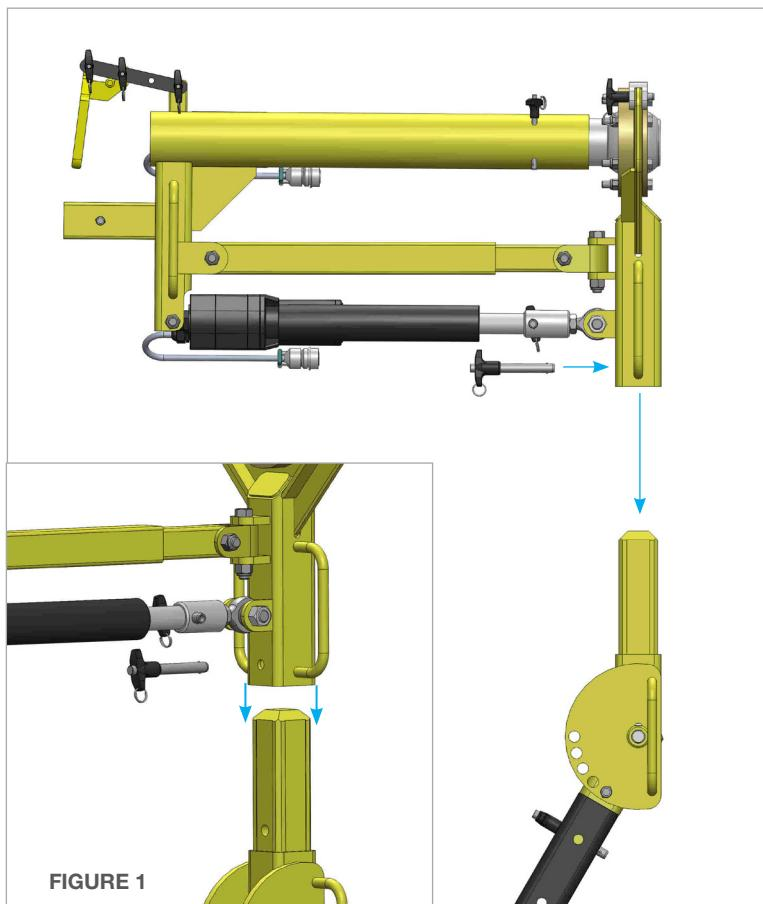

FIGURE 1
1. Remove the Quick Release Pin from the Pivot Assembly (JKT-200). Slide the Pivot Assembly onto the Pivot Lock Assembly and secure with the Quick Release Pin. **(Figure 1)**